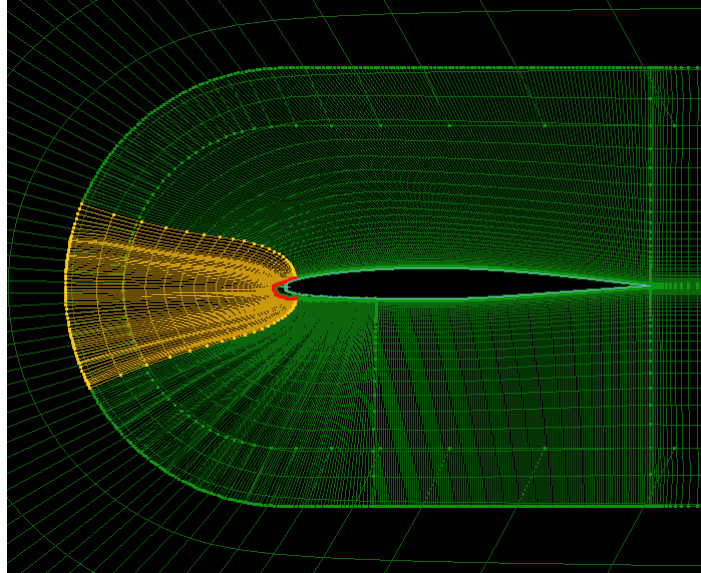

Figure 27. Gridded airfoil with rime ice.
- Click the **OK** button to make the changes permanent and close the window. Your grids should look similar to the ones in Figure 27.